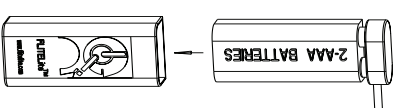

Figure 4
6. Insert the batteries and connect the battery pack to the wire lead—*see Figure 4*.